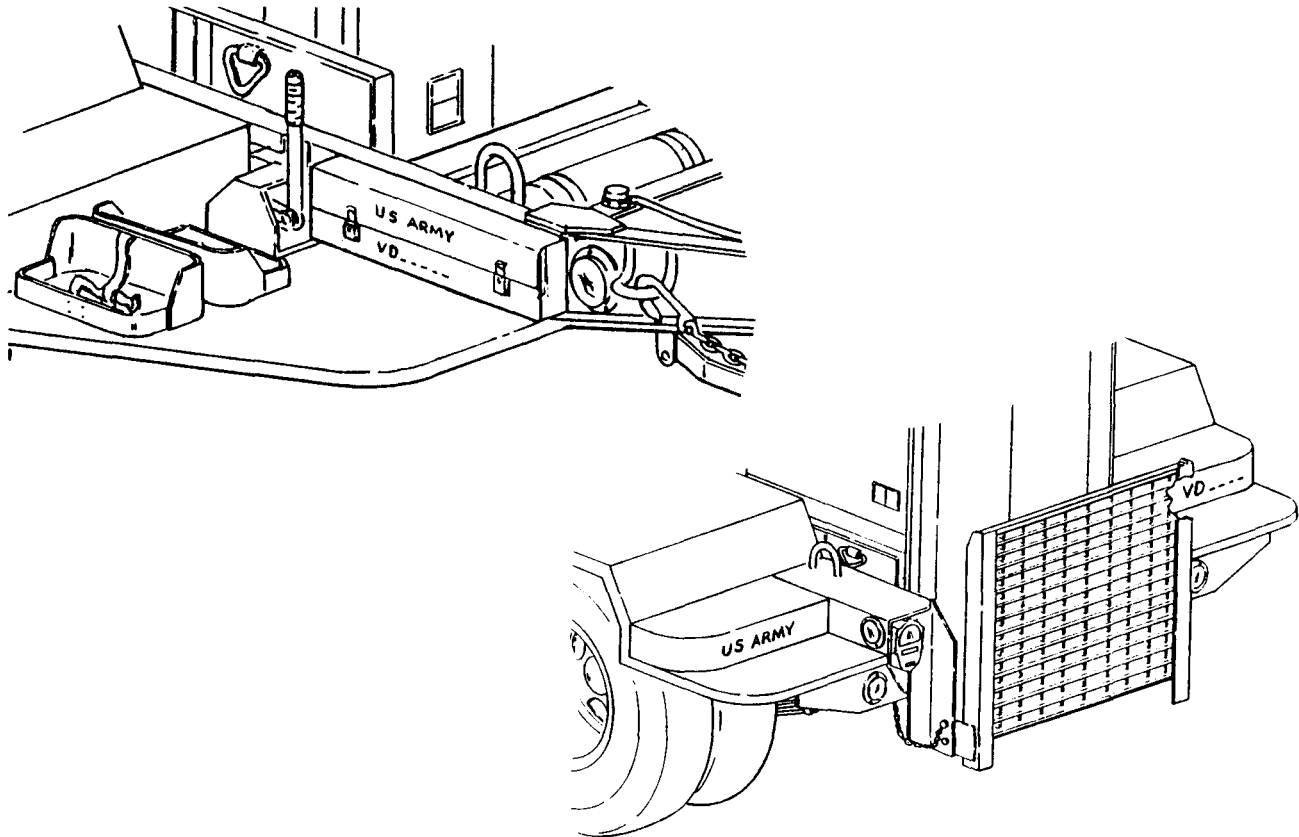

Figure 5-2. Power Unit Markings.
**5-4. Marking.** (See figure 5-2.) The power unit four-digit registration number, preceded by the prefix "VD" and the words "U.S. ARMY", is marked in three places on the trailer. Marking is done in accordance with MIL-STD-642. On the fender, over each wheel, "T.P. 35 PSI" is marked in  $1.00 \pm .12$  inch high characters in accordance with MIL-STD-130. Figure 5-2 shows the approximate location of markings on the power unit. If required, touch-up painting of the base color shall be done in accordance with MIL-T-704, Type F, Color Green, No. 383 of MIL-C-46168.